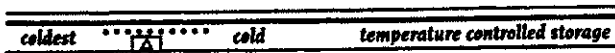

Figure 56
- a. For coldest temperatures, slide control to left (ice crystals may form); for cold temperatures, slide control to right. See Figure 56.